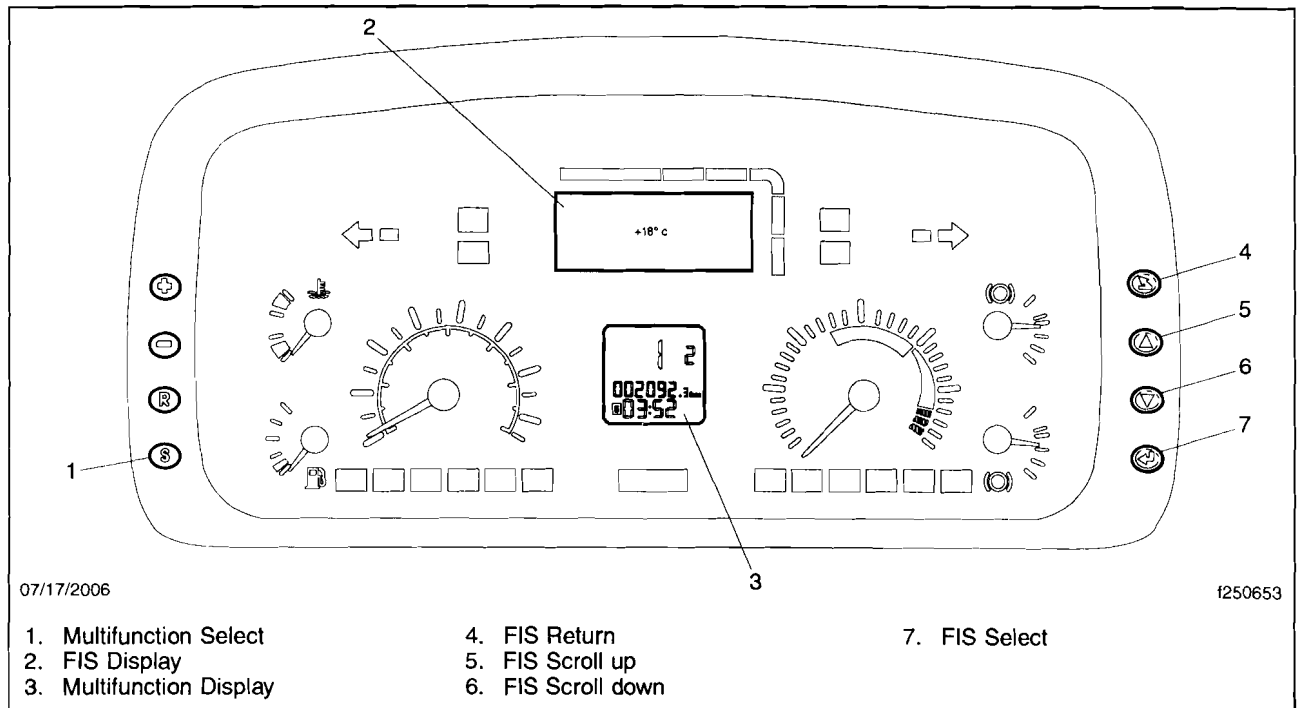

Fig. 19, Driver Information System (FIS) and Multifunction Display (MFD)
4. To display the mileage and hours, press the multifunction SELECT button (labeled S) on the left-hand side of the instrument panel, then scroll through the readout. See **Fig. 19**, item 1.
5. To display the driver information system (FIS) values for the before and after readings, press the FIS RETURN button on the right-hand side of the instrument panel. See **Fig. 19**, item 4.
6. Use the scroll buttons to go to "Diagnosis," see **Fig. 19**, items 5 and 6, then press the FIS SELECT button, item 7.
11. Press the FIS RETURN button. See **Fig. 19**, item 4.
12. Use the scroll buttons to go to "Diagnosis", then press the FIS SELECT button. See **Fig. 19**, item 7.